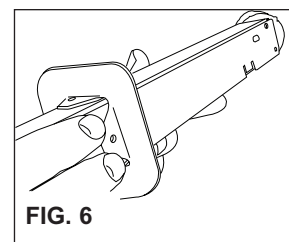

FIG. 6
4. Insert raceway through wall (with lid gauge marks facing upwards) using previously installed wall plate and gasket as a stop (See Fig. 6).